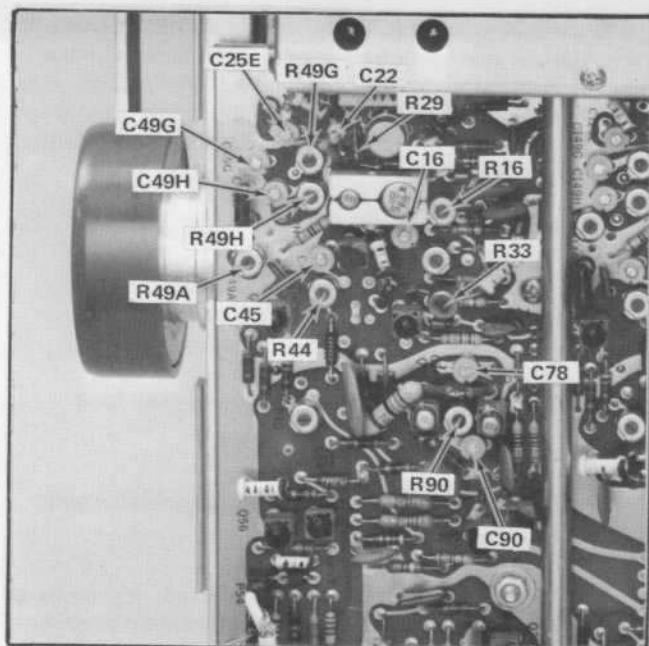

Fig. 5-11. Location of CH 1 compensation adjustments.
g. **ADJUST**—If the CRT display exceeds the limits of the **CHECK**—step, use the following adjustment procedure. See Fig. 5-11 for location of adjustments.